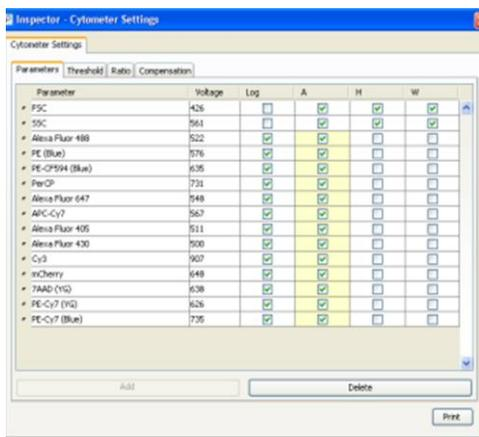

Figure B2 Cytometer settings
6. To specify the parameters for the new experiment select Cytometer Settings in the Browser. The cytometer settings will appear in the Inspector under the Parameters tab (Fig. B2).